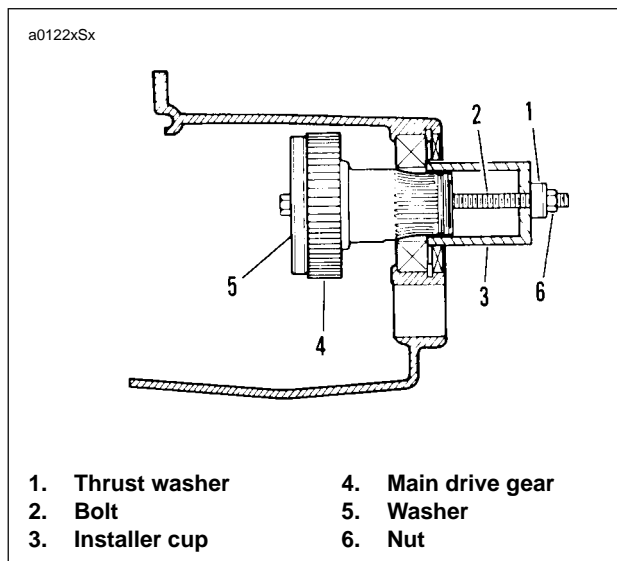
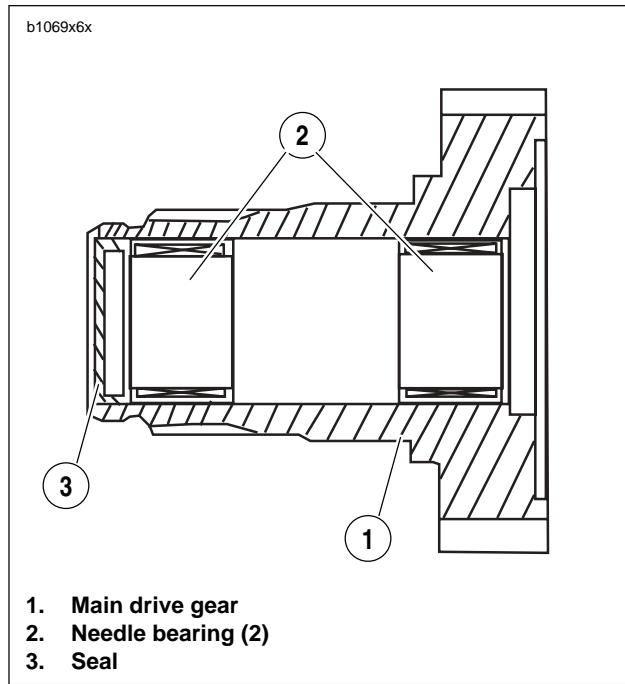

Figure 6-72. Main Drive Gear Installation
Figure 6-73. Main Drive Gear Assembly
2. See Figure 6-72. Use MAIN DRIVE GEAR REMOVER AND INSTALLER (Part No. HD-35316-A) for assembly.
- a. Take bolt (2) and place washer (5) followed by main drive gear (4) over end of bolt.
- c. Insert threaded end of bolt (2) through installer cup (3) and thrust washer (1).
- d. Thread nut (6) onto end of bolt (2). Tighten nut (6) until shoulder on gear (4) bottoms against inner race of bearing.
3. See Figure 6-73. Tap in **new** seal (3) at threaded end of 5th gear to a depth of 0.060-0.030 in. (1.524-0.762 mm).